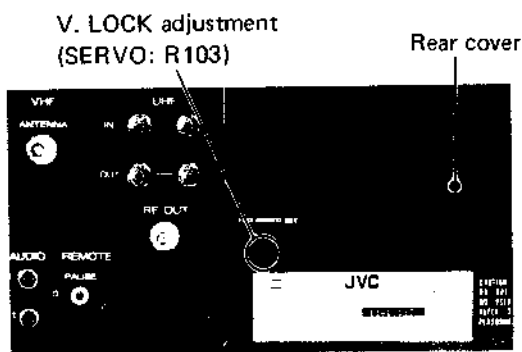

Fig. 5-19 V. LOCK adjustment
3. While observing the picture display, adjust R103 (V. LOCK) of the SERVO board to minimize (or eliminate) vertical instability. This control is accessible through the rear cover as shown in Fig. 5-19.